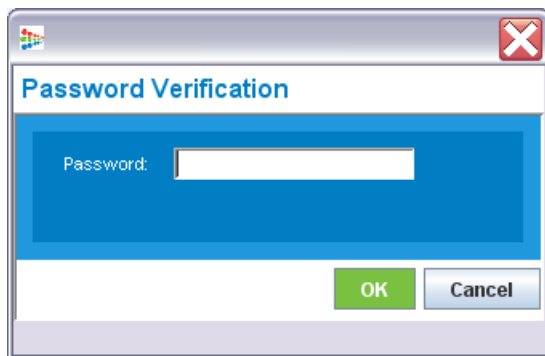

Figure 95. Password Verification prompt
2. At the prompt, enter your password (Figure 95).